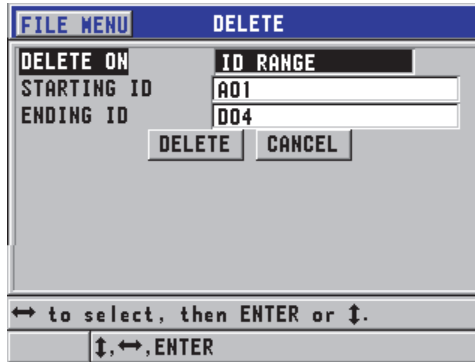

Figure 6-32 Deleting the data of an ID range in the active file
2. In the **DELETE** screen (see Figure 6-32 on page 115), set **DELETE ON** to **ID RANGE**.